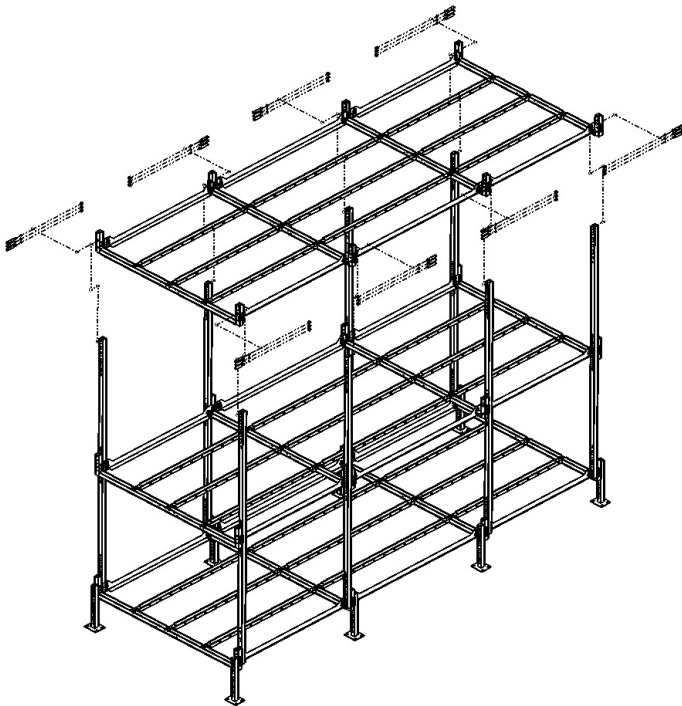

Fig. 26
6.2 Fix the pole to the second welded crossbar of the start frame of the third level with 3x bolt. ensure to include the side rail (1) correctly in the fixture as shown in Fig 26